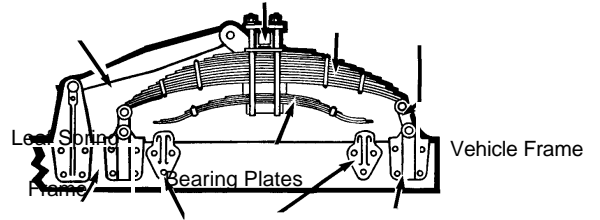

Figure 2-2
- Spring hangers (Figure 2-2) that allow movement of axle from proper position.
- Torque rod or arm, u-bolts, spring hangers, or other axle positioning parts that are cracked, damaged, or missing (Figure 2-2).